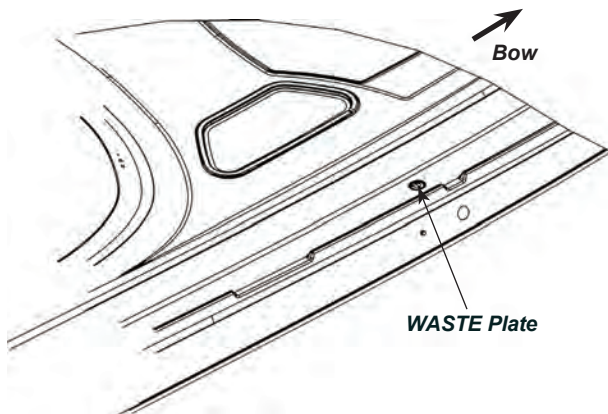

Figure J17: Waste Pumpout Fitting Location
2. Connect the dockside pump out connection to the WASTE plate located on the deck. See Figure J17.